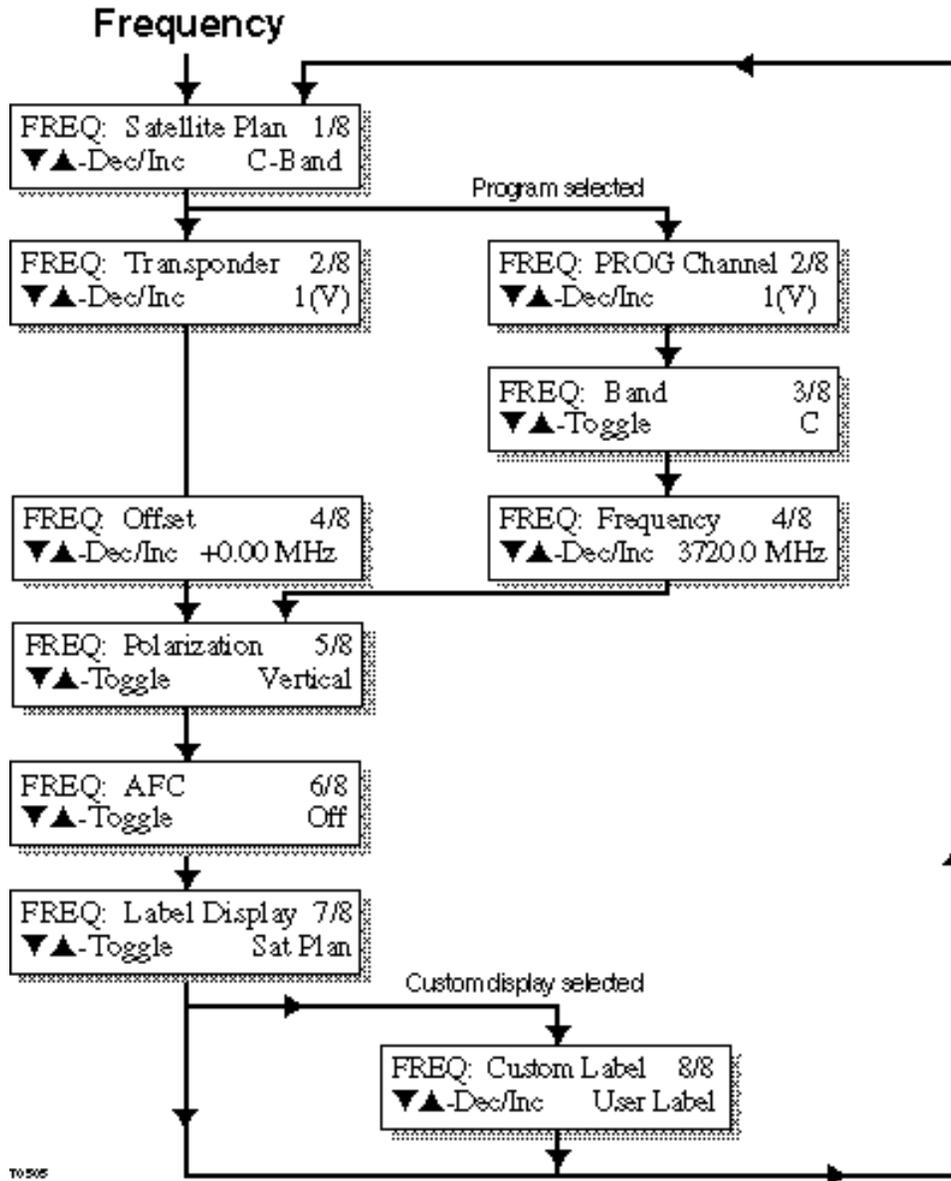

Figure 3-3. Frequency Key and Submenus
The frequency submenus are selected by pressing the FREQ key. Once selected, the submenus appear sequentially each time the FREQ key is pressed. The submenus are illustrated in figure 3-3 and are described in table 3-5. Each submenu has a tag number located in the upper right corner that identifies the submenu sequence number.
1. Press the **FREQ** key until the first Frequency submenu (tag number 1/8 in upper right corner) is displayed (see figure 3-3).
1. Press the **FREQ** key until Transponder submenu (tag number 2/8) is displayed (see figure 3-3).